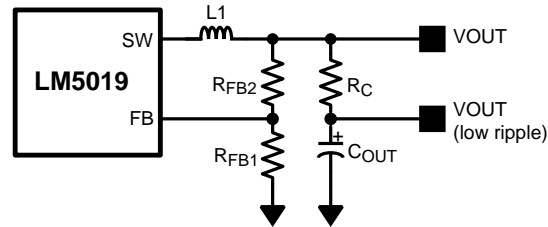

Figure 13. Low Ripple Output Configuration
This regulator regulates the output voltage based on ripple voltage at the feedback input, requiring a minimum amount of ESR for the output capacitor (C_{OUT}). A minimum of 25mV of ripple voltage at the feedback pin (FB) is required for the LM5019. In cases where the capacitor ESR is too small, additional series resistance may be required (R_C in Figure 13 Low Ripple Output Configuration).
For applications where lower output voltage ripple is required the output can be taken directly from a low ESR output capacitor, as shown in Figure 13 Low Ripple Output Configuration. However, R_C slightly degrades the load regulation.